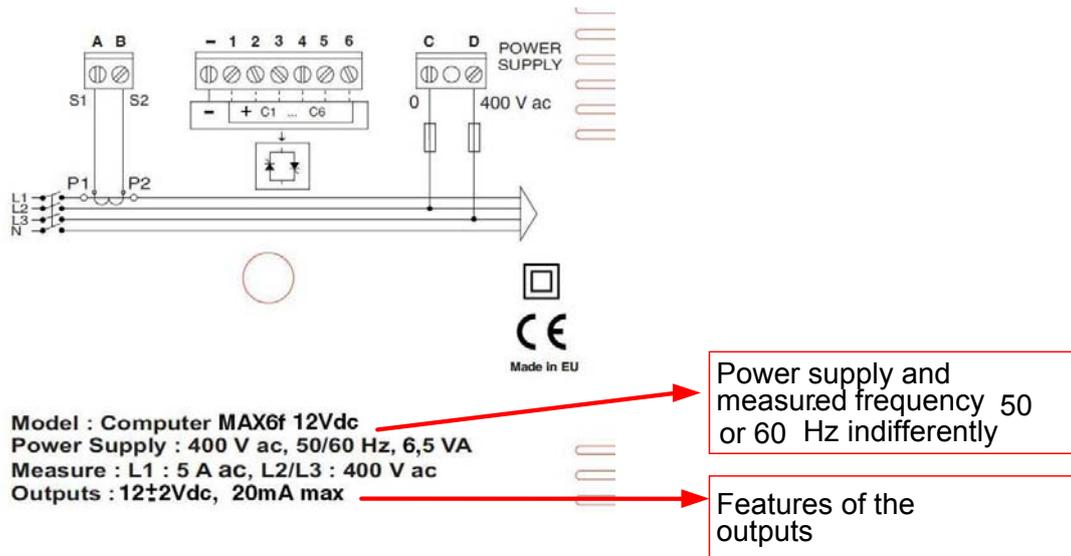

Fig. 1.1.- Rear label of the unit
- The type supplied is the same as that requested. (See label on the rear, Fig. 1.1)